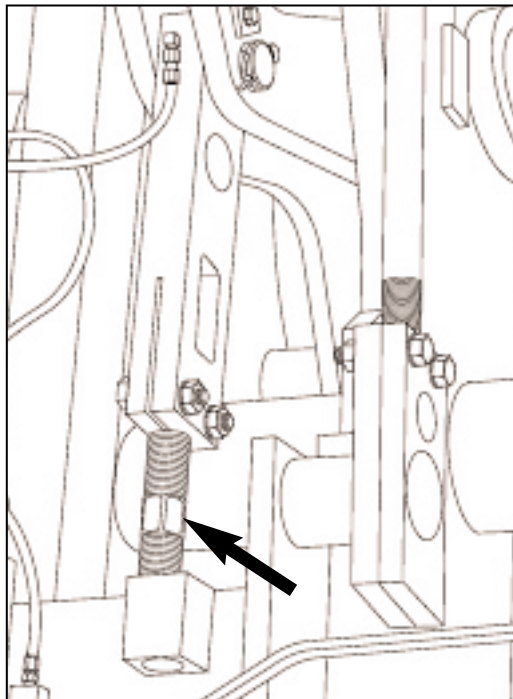
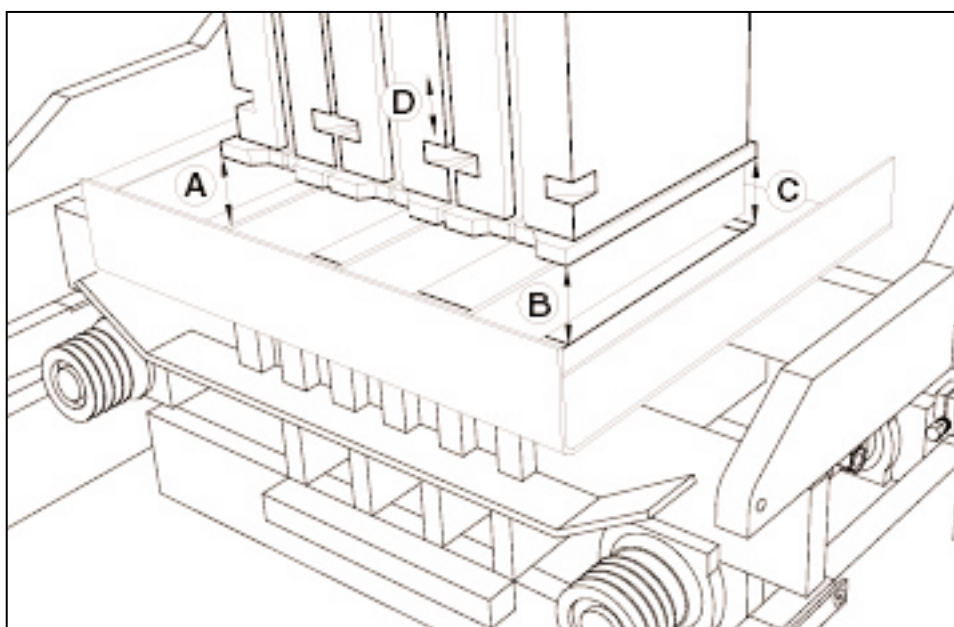
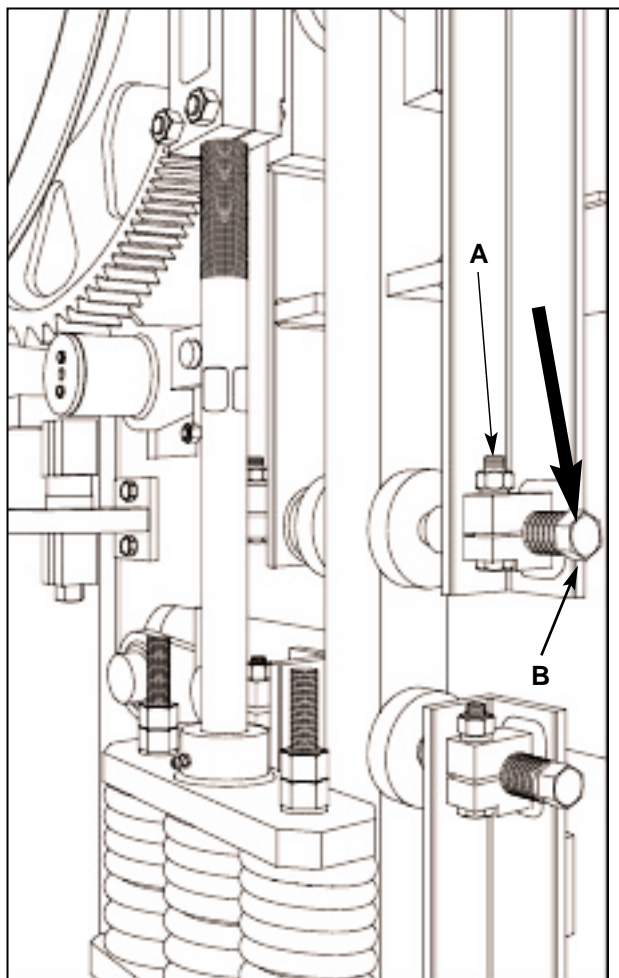

Figure 5.29 L.H. STRIPPER HEAD LINK.
Figure 5.30 STRIPPER SHOES POSITION.
Figure 5.31 LOWER GUIDE LINER ADJUSTMENT SCREW.
- 5.7.2 To determine if the head is level with mold (left to right and front to back), measure how far the bottom of the stripper shoes are above the mold end liners at all 4 corners (A, B, C and D) (see figure 5.30).
- 5.7.3 If the head is not levelled side to side (A to B) (see figure 5.30), adjust the left hand stripper head adjusting link (see figure 5.29).
5.7.4 If the stripper head is not level (B to C) (see figure 5.30) with the mold from front to back, back out both lower guide liner adjusting screws on the stripper head frame at the slide shaft on the left hand side of machine (see figure 5.31). Loosen nut (A) and adjust with bolt (B).
- 5.7.6 After head is level with mold, tighten both adjustment screws against the slide shaft on the left hand side (see figure 5.31). Then loosen the front adjustment screws 1/4 of a turn and tighten clamp bolts.